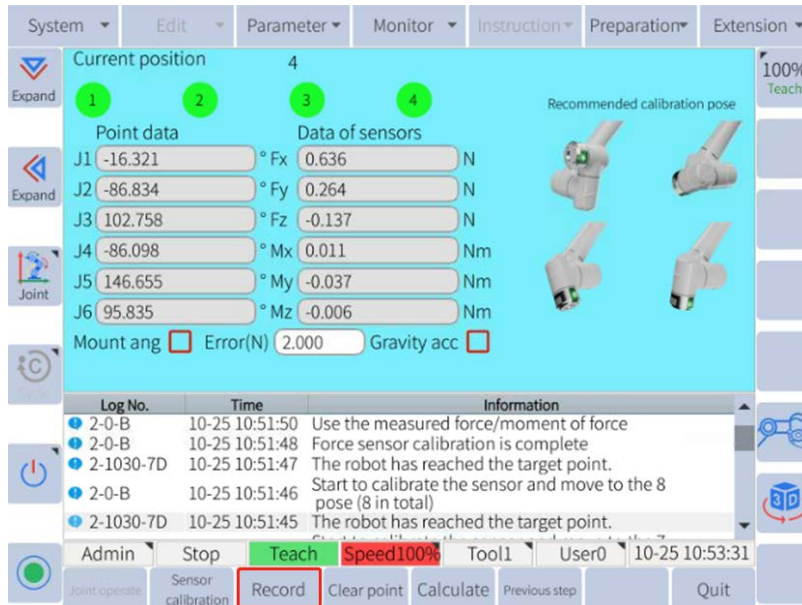

Figure 6-39: Record
- Click 1 (by default) and enter the pose adjustment display. Hold the servo and adjust the pose to be reasonable by turning around the joint (mainly the 4th, 5th and 6th joint). Click **Record** in the bottom menu bar, as shown in **Figure 6-39**.
- (b) Click 2 and enter the pose adjustment display. Hold the servo and adjust the pose to be reasonable by turning around the joint (mainly the 4th, 5th and 6th joint). Click **Record** in the bottom menu bar, as shown in **Figure 6-39**.